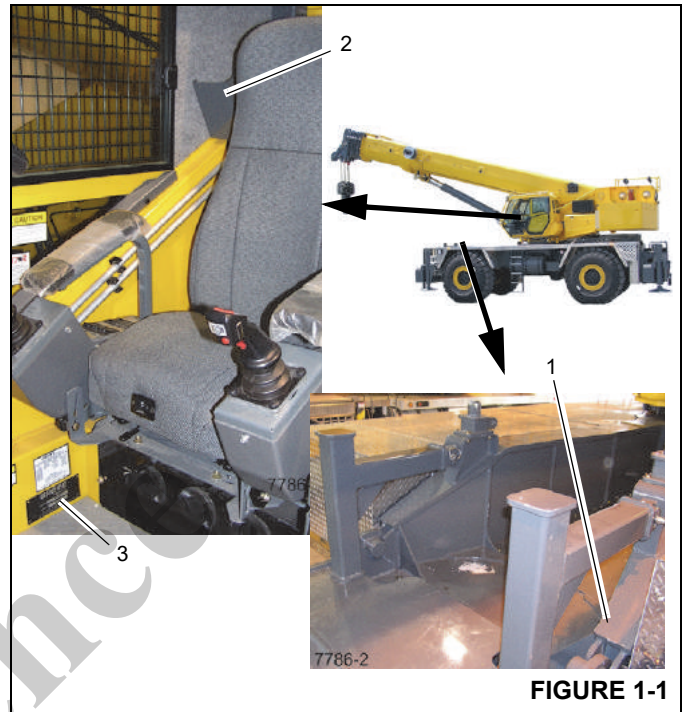

FIGURE 1-1
See Figure 1-1 for your crane's serial number location; stamped on left side of front frame (1), on manual holder in